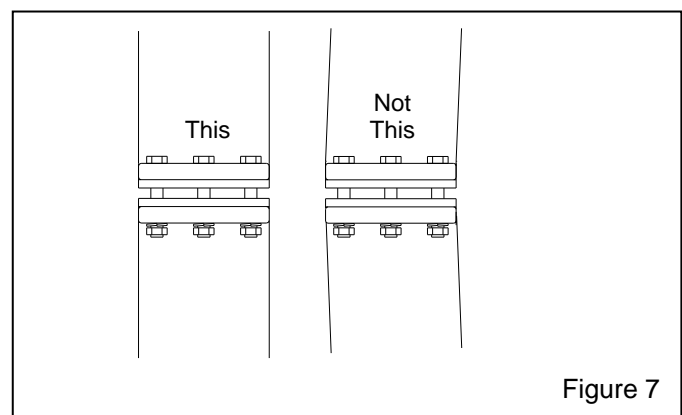

Figure 7
**3.5.2** Place the splice bars 90 degrees (perpendicular) to the belt. Clamp the splice bars in place and match-drill 3/8" through both ends of the belt. It is important to align the belt as shown in Figure 7. If the splice is misaligned, from not having the splice bar perpendicular to the belt, the belt may tend to drift off the pulley.